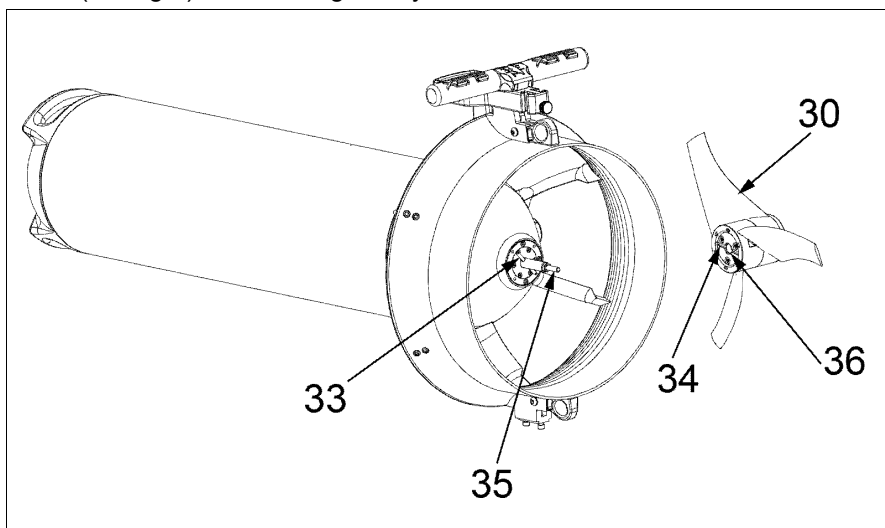

Fig 38 - Propeller insertion
Insert the propeller (hole 36 - **Fig 38** - on p. 47) in motor shaft of the Scooter (35), turn the propeller (clockwise) until the pin (33) matches the seat (34) propeller. When you hear a click, the propeller will stop turning. Continue by turning (CLOCKWISE) the switch (6 - Fig.1) with the finger only, WITHOUT FORCING.